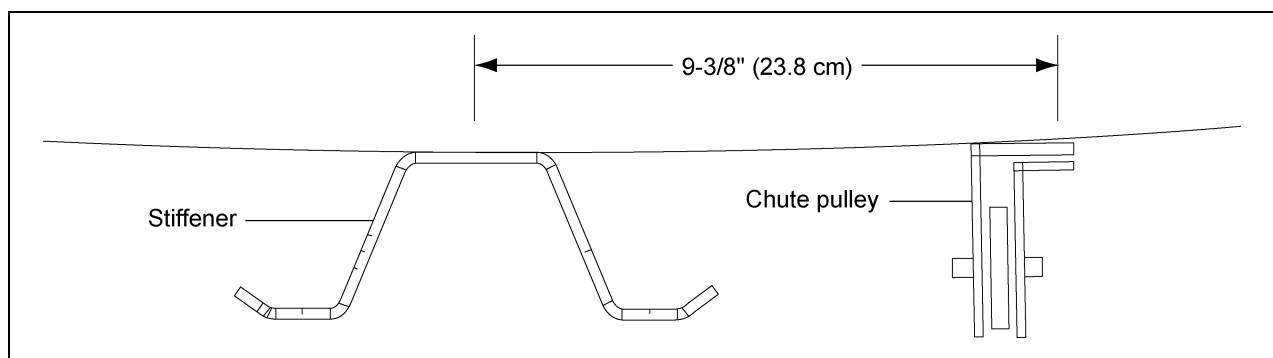

Figure 4A
1. Position the pulley in the hole that is located 9-3/8" (23.8 cm) horizontally from the center of the stiffener. **NOTE:** When positioning the pulley, ensure the pulley cable does not interfere with the dump chutes. This can only be accomplished at every other stiffener. (See Figure 4A below and Figure 3A on Page 8.)